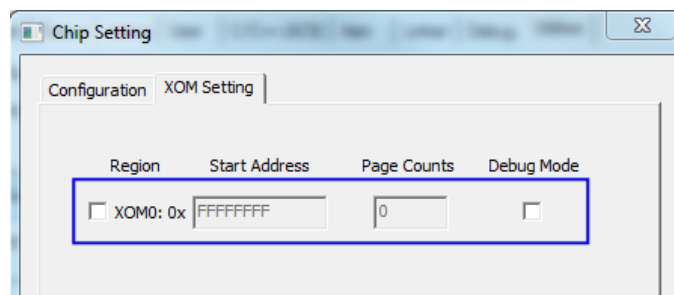

Figure 3-4 Keil® MDK XOM Setting
- After entering the “*M251 Settings*” page, select “*XOM setting*” page to enter XOM setting page, as shown in Figure 3-4.